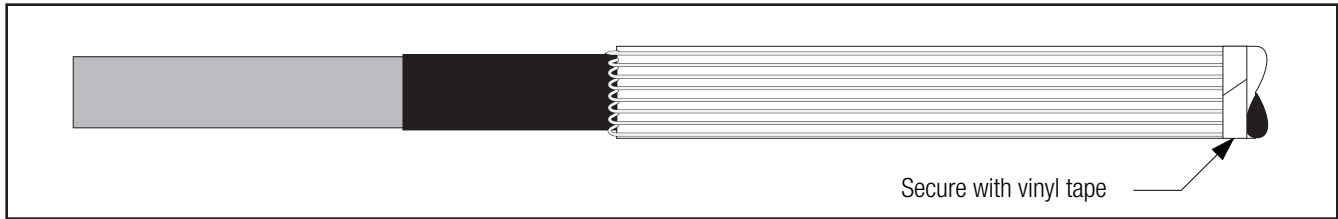

Figure 2
- 2.3 Carefully bend the neutral wires back over the edge of the cable jackets (JCN) or binding wire or tape (CN). Press them against the cable and temporarily secure/cover the end of the wires with vinyl tape (*Figure 2*).